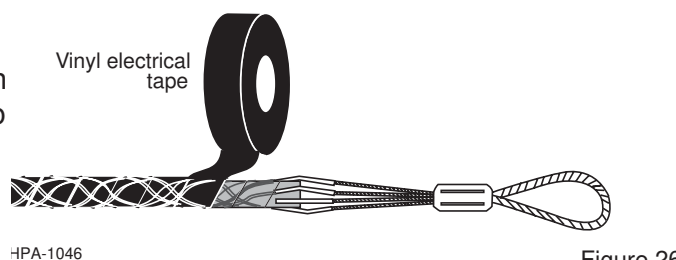

Figure 26
5.17 Starting at least 2.5 cm (1.0 in.) below the mesh on the cable jacket, wrap vinyl tape TIGHTLY to the top of the grip. The mesh's imprint should show clearly through the tape (Figure 26). The tape must be tight because it helps compress the mesh against the cable core. Tug on the grip slightly to tighten it.